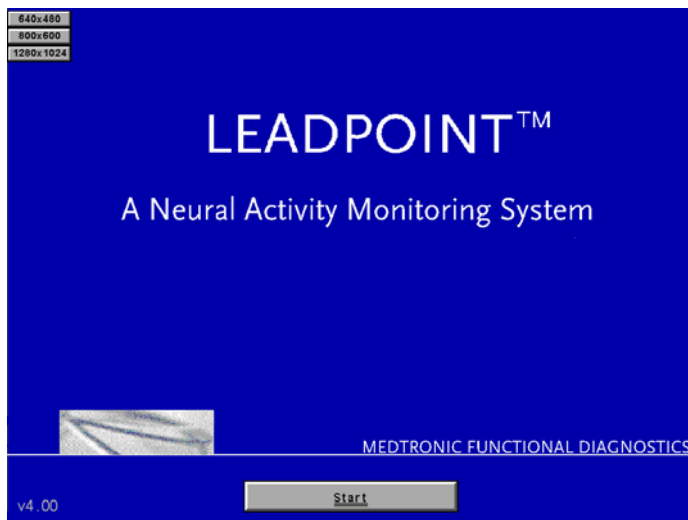

Figure 69 The Start Page of Leadpoint™
- Double-click the Leadpoint™ icon on your Windows desktop. The program will perform a swift self test before displaying the Start Page, see Figure 69 below: